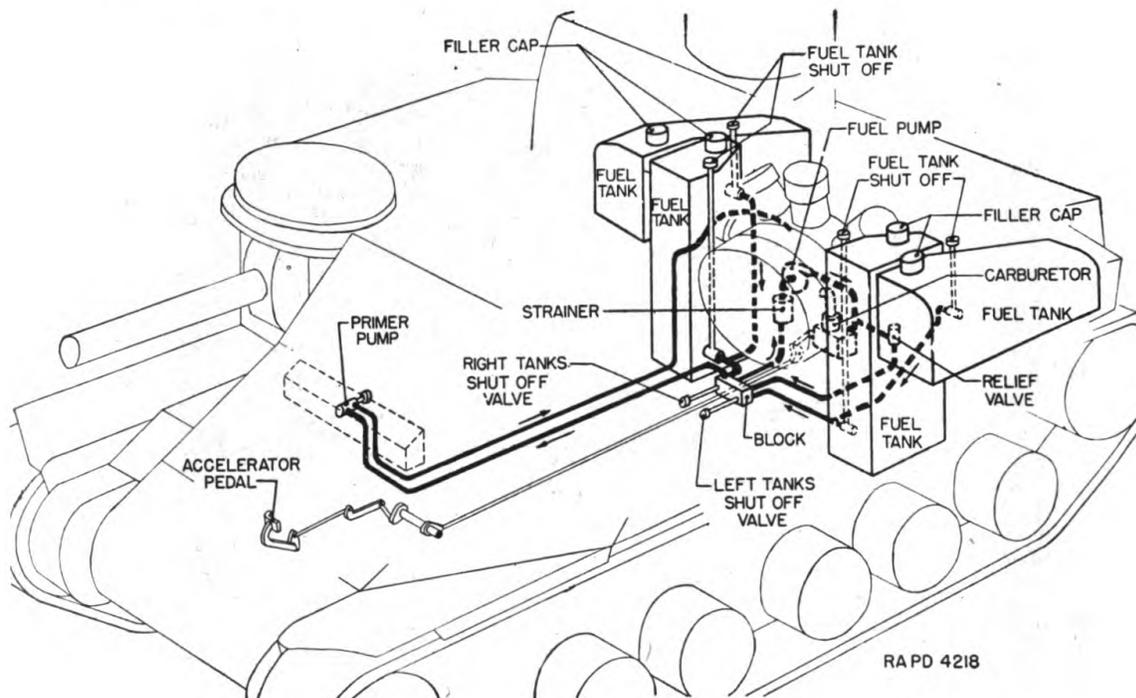

FIGURE 35.—Fuel system.
- (2) *Horizontal tanks.*—(a) Drain tanks.
- 62. Shut-off valves.**—*a.* Two valves (fig. 35) located on the rear wall of the fighting compartment under the engine oil tank and to the right of the power shaft tunnel control the flow from the right and
left fuel tanks. In addition, each tank is provided with a separate shut-off valve (fig. 35). The handles for the vertical tanks extend through the grill, near the turret, in the roof of the hull, while the handles for the horizontal tanks are placed in the countersunk holes in the roof of the hull, back of the filler caps.
66. Gasoline system operation (fig. 35).—Gasoline from any tank or combination of tanks flows to a central header. From the header it is drawn through a strainer by a pump to the carburetor. Excess gasoline is bypassed through a relief valve and returned to